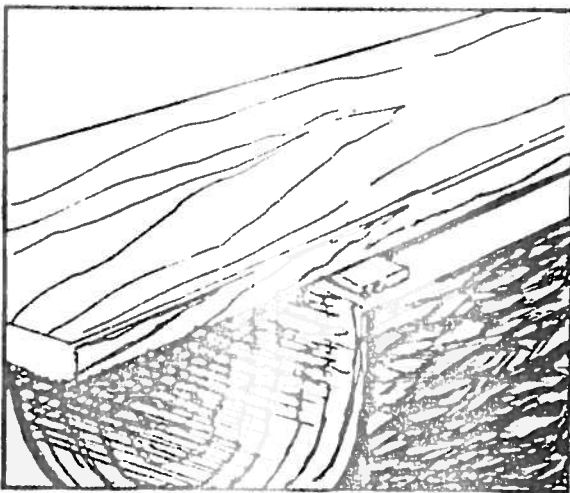

Fig. 4
3. If your Guide Rail Assembly is not performing well, a modified 10' aluminum ladder may be used as an alternative or a 2'x12' plank as suggested in the original manual. If a plank is used, it must be absolutely straight. If the log itself is not straight, wedges must be inserted between the plank and the log. Fig. 4.